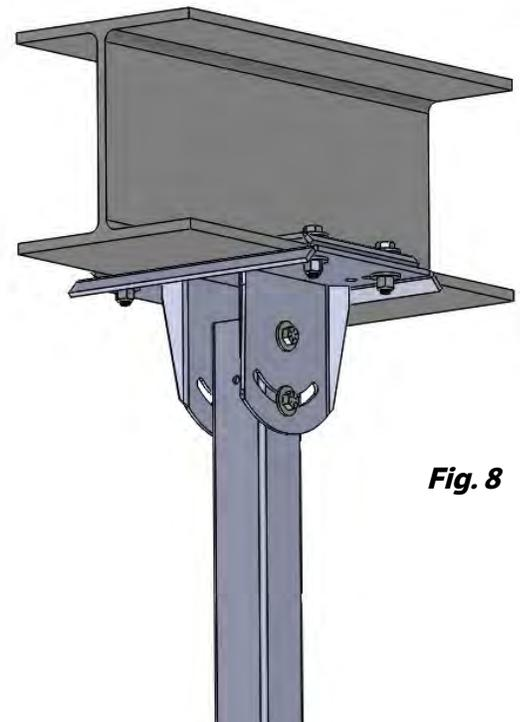

Fig. 8
2. Insert the bolts, washers and tighten to 40 ft-lbs (54.2 N·m). (Fig 8)